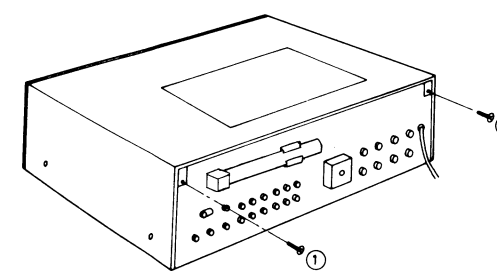

Fig. 3
1. Remove the two cabinet mounting screws (nos ①, ② screws in fig. 3).